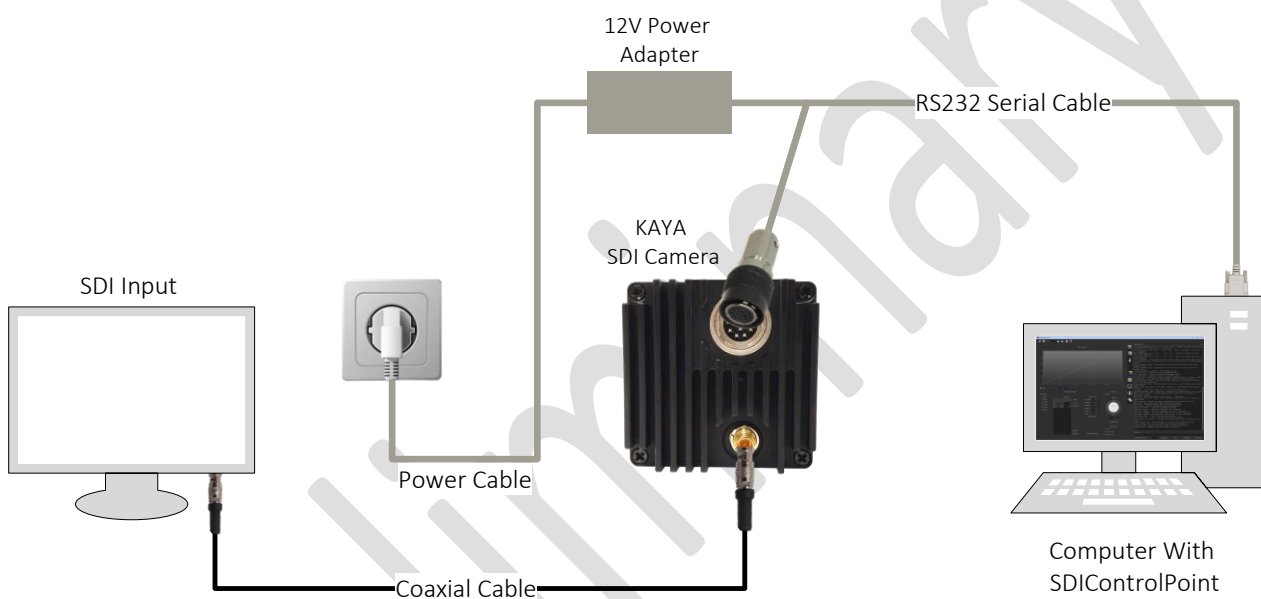

Figure 1 – Camera connections diagram
2. Make sure that all components are properly connected (camera, cables and capture card). See Figure 1 and section 9.2 Micro BNC Connector.